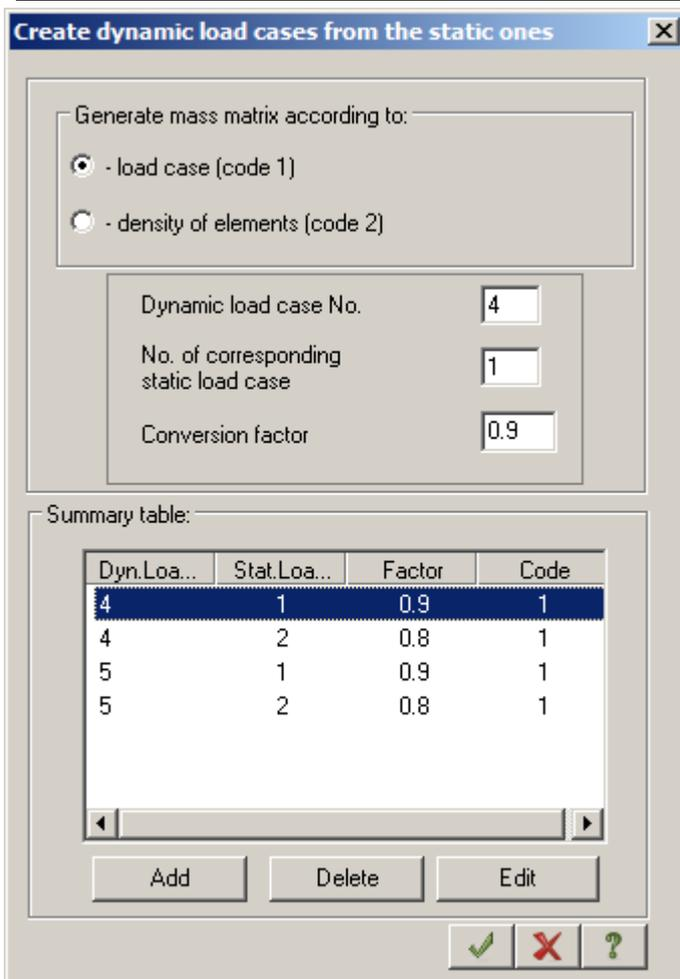

Figure 3.22 **Create dynamic load cases from the static ones** dialog box
- ⇒ In the **Create dynamic load cases from the static ones** dialog box (see Fig.3.22), under **Generate mass matrix according to**, click **Load case (code 1)** and to create the first line of the summary table, specify the following data: